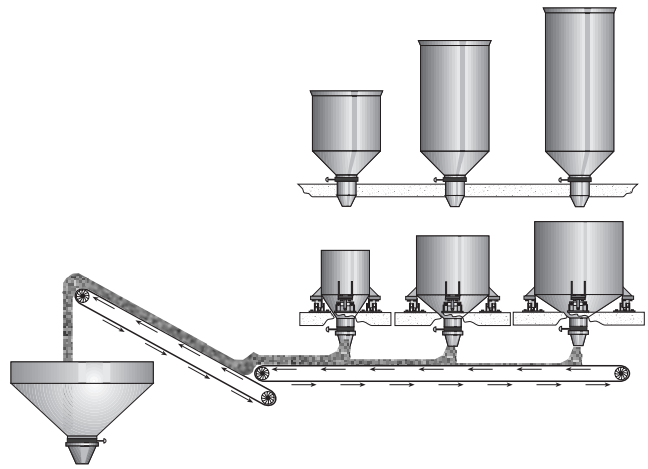

Figure 1-12
- H.** The system illustrated in Figure 1-12 below is a multi-ingredient batching system which has a separate weigh hopper for each ingredient.